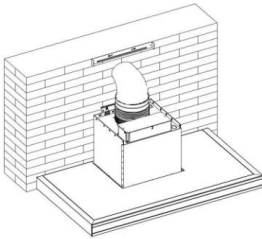

Fig.5
- Fix the extensible tube on the hood, see Fig.5.